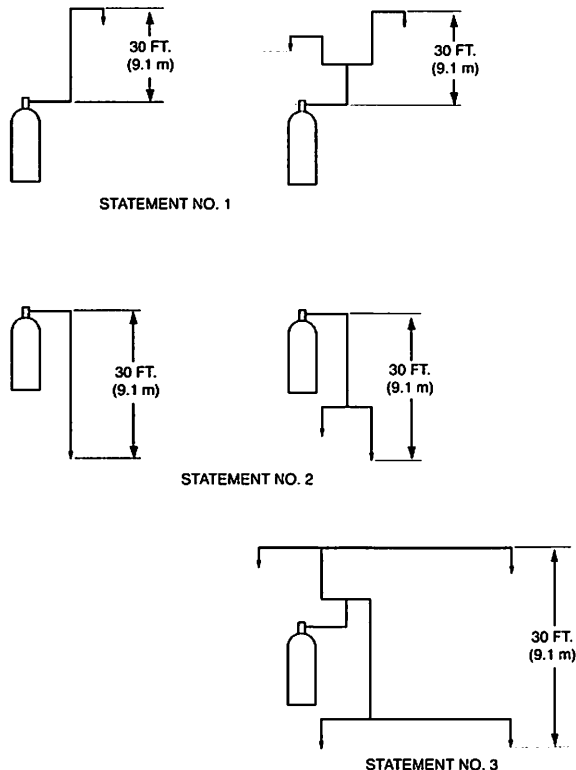

FIGURE 3
- Statement No. 1. If nozzles are only located **above** the tank outlet, then the maximum elevation difference between the tank outlet and the furthest horizontal pipe run or discharge nozzle (whichever is furthest) shall not exceed 30 ft. (9.1 m). See Figure 3.
- Statement No. 2. If nozzles are only located **below** the tank outlet, then the maximum elevation difference between the tank outlet and the furthest horizontal pipe run or discharge nozzle (whichever is furthest) shall not exceed 30 ft. (9.1 m). See Figure 3.
- Statement No. 3. If nozzles are located both **above and below** the tank outlet, then the maximum elevation difference between the furthest horizontal pipe runs or discharge nozzles (whichever is furthest) shall not exceed 30 ft. (9.1 m). See Figure 3.